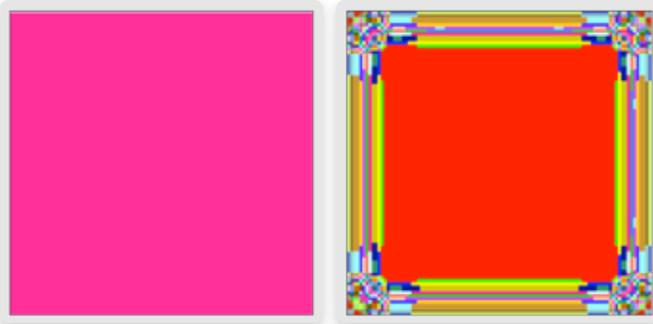

Figure 1. Results for “CPEC YES” (left) and adding “CPEC SUBFRACTURING MANHATTAN” (right).
Figure 1 displays the output of these two settings for the case of a square with dimensions of 100x100 μm^2 . The result on the left corresponds to (1) above, while the figure on the right shows the result if subfracturing Manhattan is added as in (2). The Draw Option is Color_By > Datatype. As expected in the left of this figure, CPEC contains a single dose (CFA=17). Here, the settings of HEIGHT and WIDTH were such that the edges of the input and output shapes are identical.